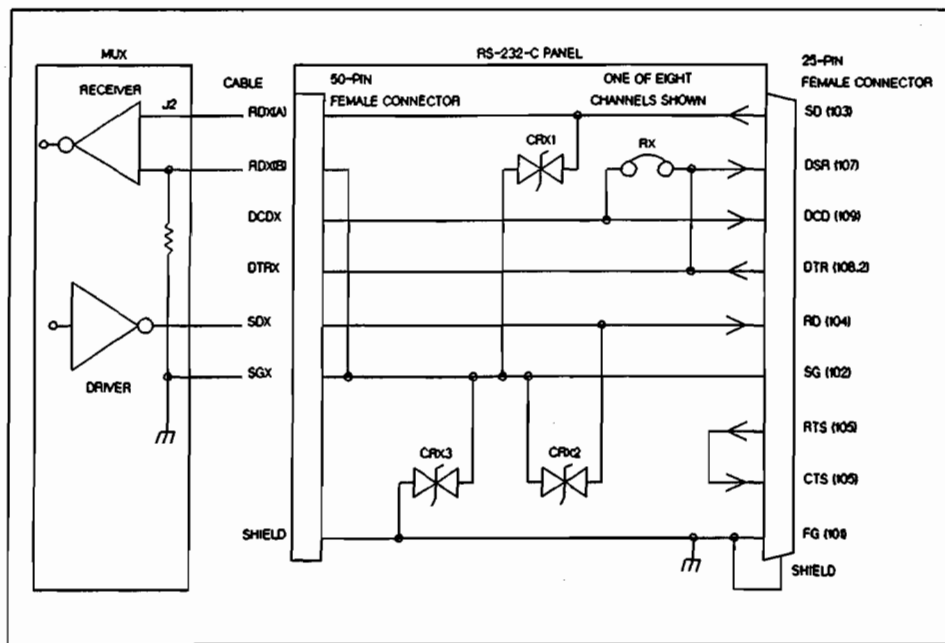

Figure 4-1. MUX Interface to RS-232-C Panel to Device Wiring
Figure 4-1 illustrates the RS-423-to-RS-232-C conversion. The balanced receiver for each channel on the MUX interface is fed from a twisted pair containing a data transmission line, Receive Data (RD(A)), and a Receive Data common (RD(B)). The fact that the RD(A) line carries the actual data signal may be confusing, however the MUX interface design inverts this signal as it enters the interface for use with the Z-80A SIO subsystem. The non-differential signal drivers, Send Data (SDX) and a respective Signal Ground line (SGX) make up the transmit data twisted pair.
The RS-232-C panel is designed to convert the RS-423 standard, which originates at the MUX interface, to the RS-232-C standard, thus providing the backward compatibility needed for existing terminals and user I/O devices. Figure 4-1 illustrates the Panel-to-RS-232-C device connections. The Panel provides the necessary EIA RS-232-C Modem signal simulation (CA, CB, CC, CD, and CF) to be used if your terminals or devices require it. A device not requiring the extra protocol lines can operate sufficiently using the Transmitted Data (BA) and Received Data (BB) lines.